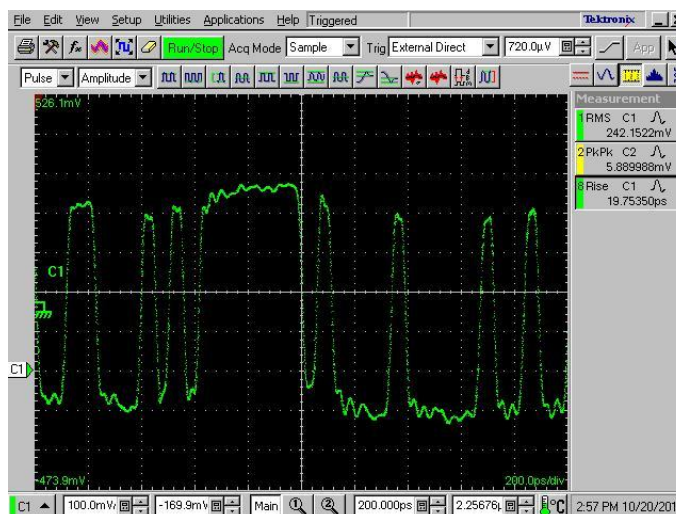

Figure 1. Incorrect PRBS7 pattern
- Scroll/Delay the 127 bit PRBS7 pattern on the oscilloscope until you observe a sequence of data close to 7 one's followed by 6 zero's. You may find a pattern shown below in **Figure 1**, which is incorrect.